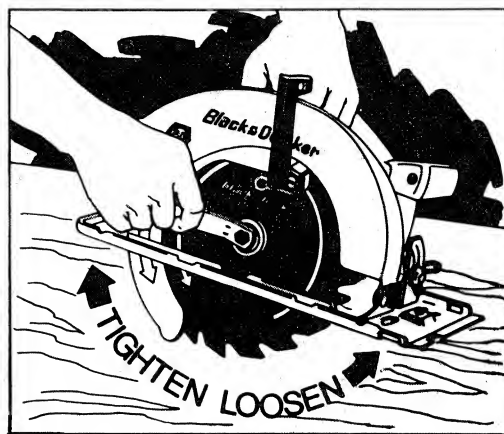

FIGURE 2
—b. ON SAWS WITH BLADE ATTACHED. Using the retracting lever, retract the lower blade guard and place the Saw on a piece of scrap lumber as shown in Figure 2. Press down on the Saw so that the blade teeth dig slightly into the lumber and prevent the blade from turning. Then, with the blade wrench provided, turn the clamping screw counter-clockwise and remove the screw and outer clamp washer. Disengage the blade teeth from the lumber, and with the lower blade guard still retracted, lift off the blade.
3. To attach the blade: Place inner clamp washer on spindle if previously removed. Retract lower blade guard and place blade over inner clamp washer with printed side of blade out (teeth at bottom of blade pointing forward). Fit outer clamp washer onto spindle . . . "flats" on the outer washer must mesh with the "flats" on the spindle. Thread on clamping screw firmly by hand to hold washers in position. Place Saw on piece of scrap lumber as shown in Figure 2 and press down on the Saw so that blade teeth dig slightly into wood and prevent the blade from turning. Tighten clamping screw (clockwise) firmly with the blade wrench.